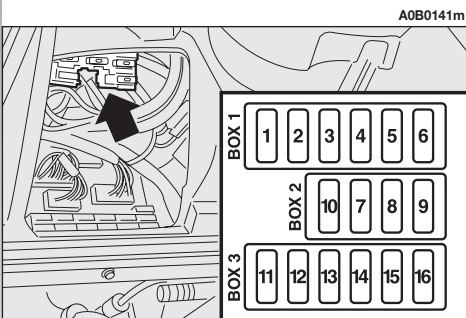

fig. 71
**FUSES ABOVE THE MAIN FUSEBOX (fig. 71)**